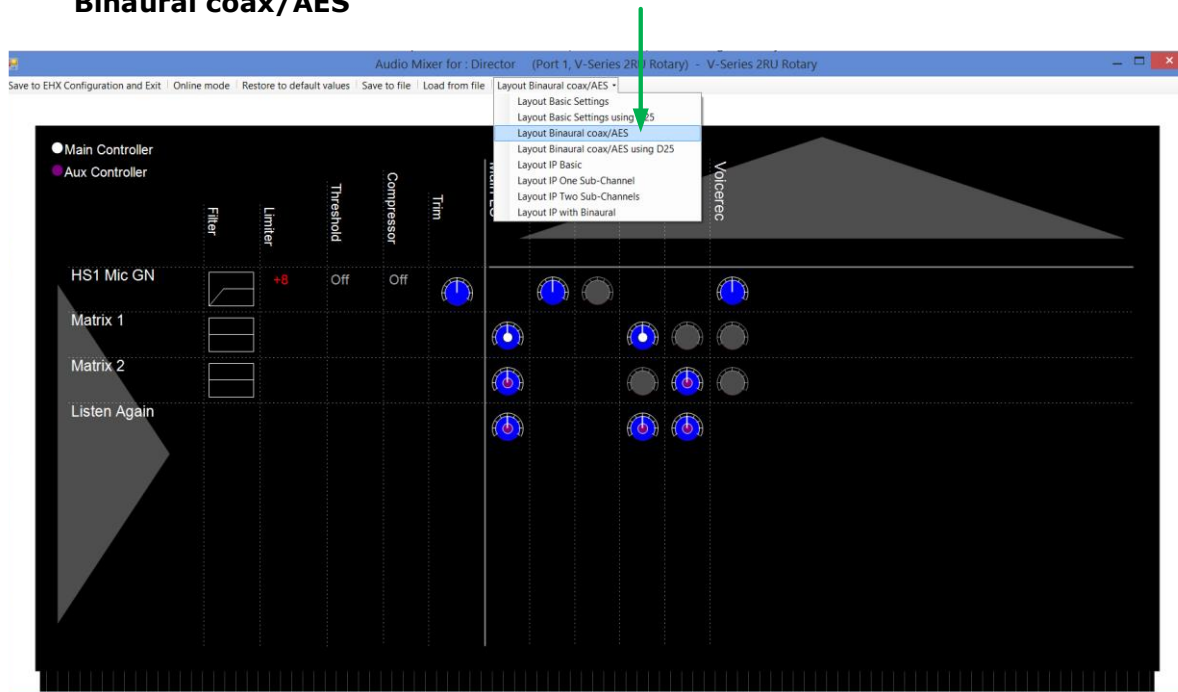

Figure 6-6 Set binaural viewing options in the audio mixer
- 1) Select Configuration>Panels>Audio Mixer>Layout Basic Settings in the EHX software and chose either Layout Binaural coax/AES or Layout Binaural coax/AES + D25. See Fig. 6.6.